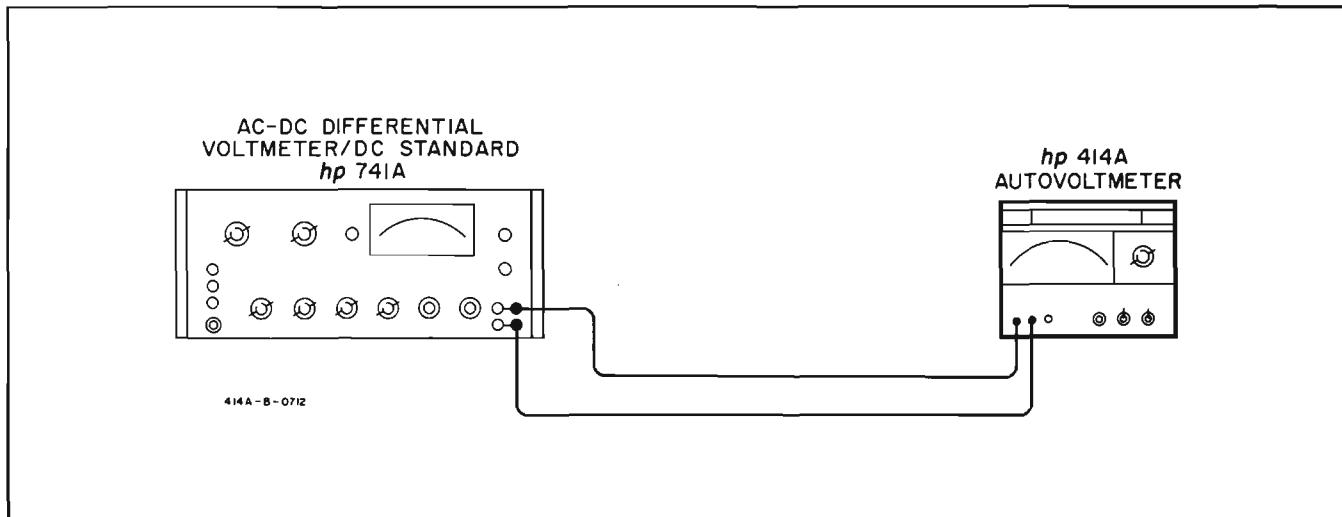

Figure 5-1. Voltmeter Check and Calibration
- Connect VDC and COM probes to output of dc standard as shown in Figure 5-1.